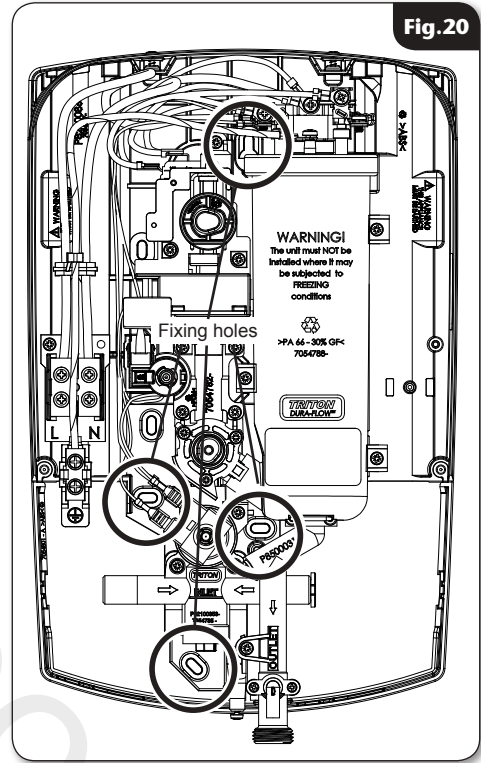

Fig.20
- Use the backplate as a template making sure it is level and mark the fixing holes (**fig.20**). The top and one of the bottom fixing holes should be sufficient to hold the shower. Remove the unit from the wall. Drill and plug the wall.